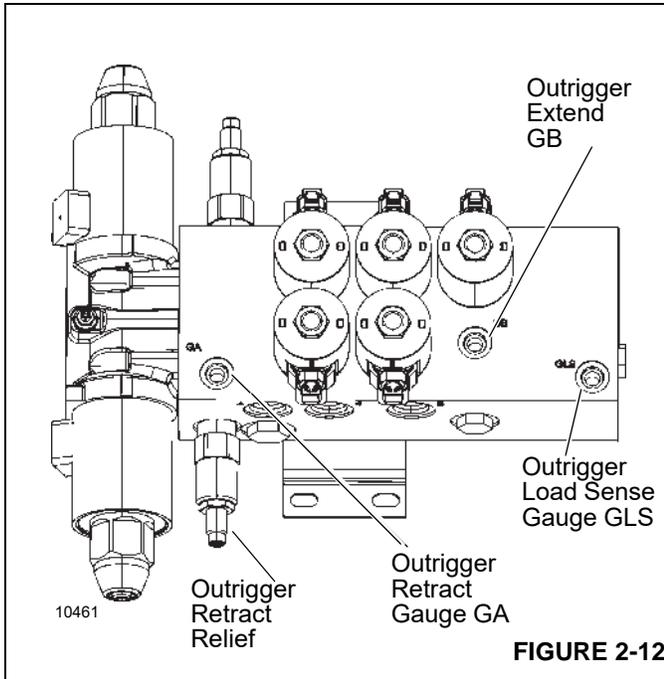

FIGURE 2-12
1. Install a 345 bar (5000 psi) minimum gauge in the GB gauge port on the front outrigger manifold. See Figure 2-12.
The O/R Retract circuit has a single relief valve in the Front O/R Valve with a setting as shown in Figure 2-12 and Table 2-3.